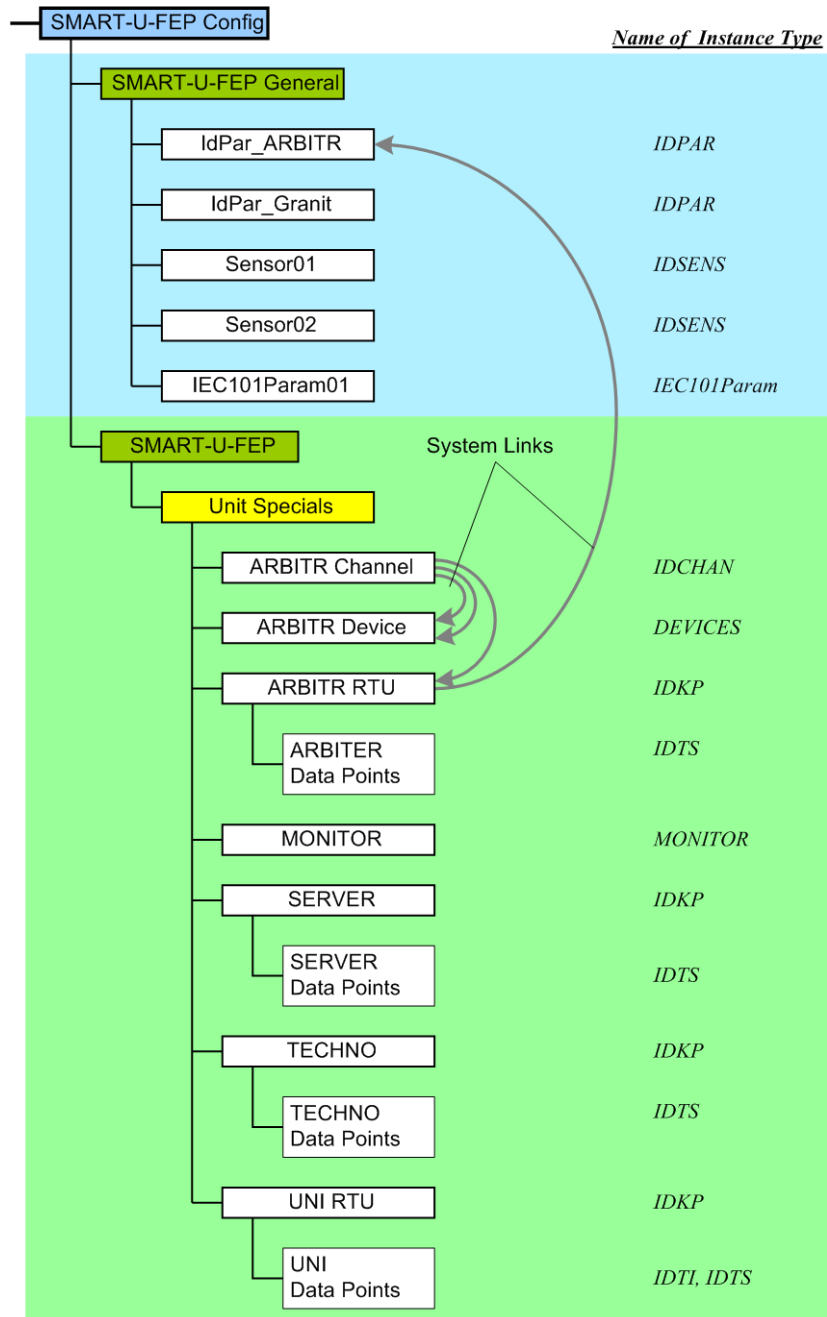

Figure 3-6.5: SMART-U-FEP, Details of "General Part"
- SMART-U-FEP, Details of "General Part" (Figure 3-6.5)